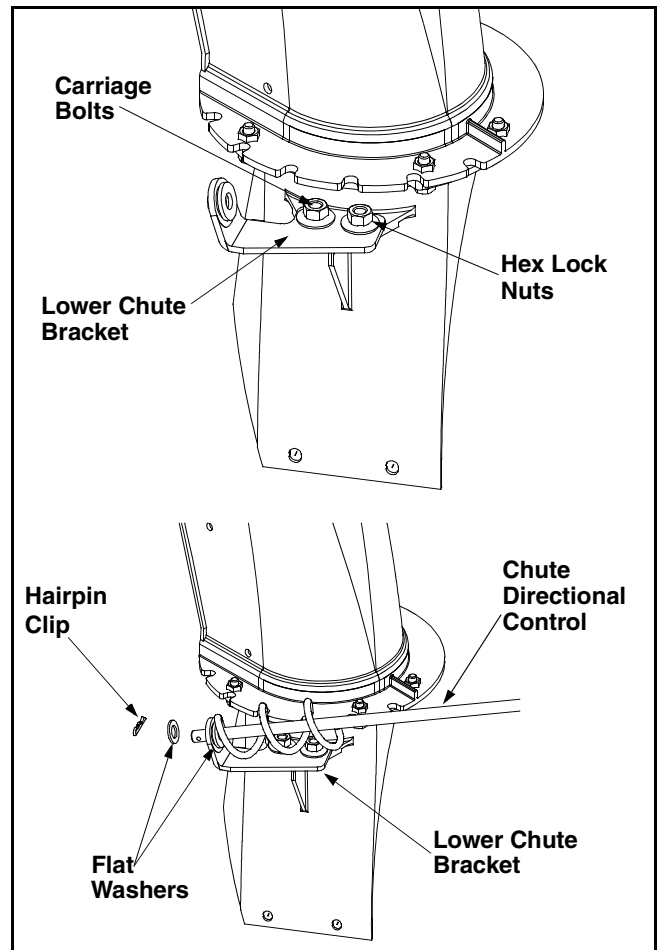

Figure 12
- To align the spiral on the chute directional control, you may have to loosen the carriage bolts and hex lock nuts securing lower chute bracket to the extension on the left side of the chute assembly. See Figure 12.
- Place another flat washer on the end of the chute directional control, and insert hairpin clip into hole in the end of control. See Figure 12.